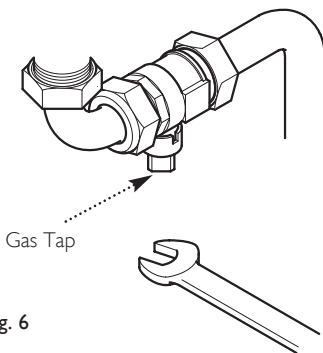

Fig. 6
1. Using a suitable open ended spanner, turn the square nut on the gas tap through 90° (1/4 turn) to isolate the gas supply at the boiler (Fig. 6).